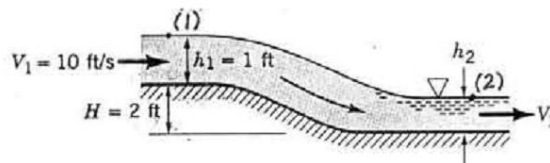

FIGURE P3.101
3.101 Water flows down the sloping ramp shown in Fig. P3.101 with negligible viscous effects. The flow is uniform at sections (1) and (2). For the conditions given show that three solutions for the downstream depth, h_2 , are obtained by use of the Bernoulli and continuity equations. However, show that only two of these solutions are realistic. Determine these values.